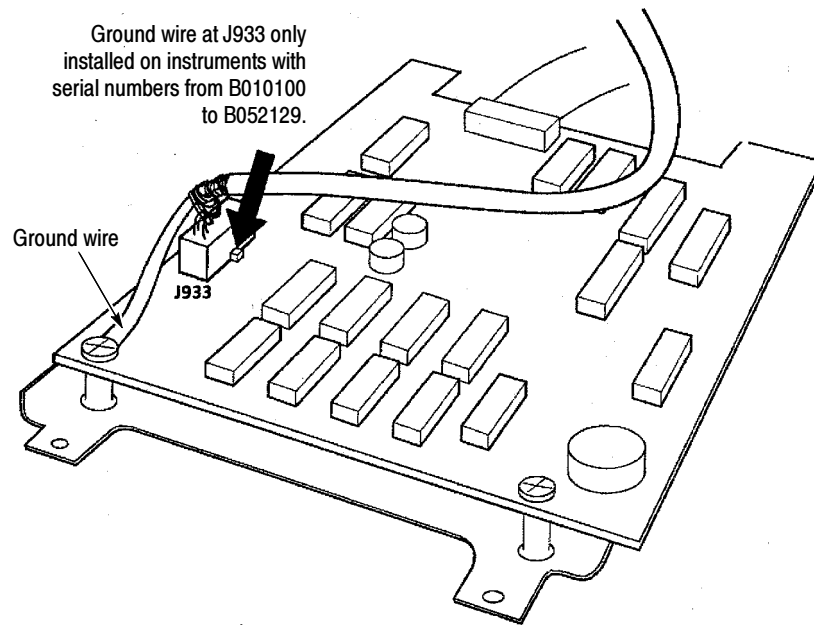

Figure 6: Front Panel circuit board assembly (VM700 shown) showing cabling and proper alignment of multi-pin connector (Serial numbers from B010100 to B052129)
10. Unplug the Touch Panel connector at J933 (on the Front Panel circuit board) and remove the ground wire from beneath the circuit board attaching screw. Refer to Figure 6 for component locations.